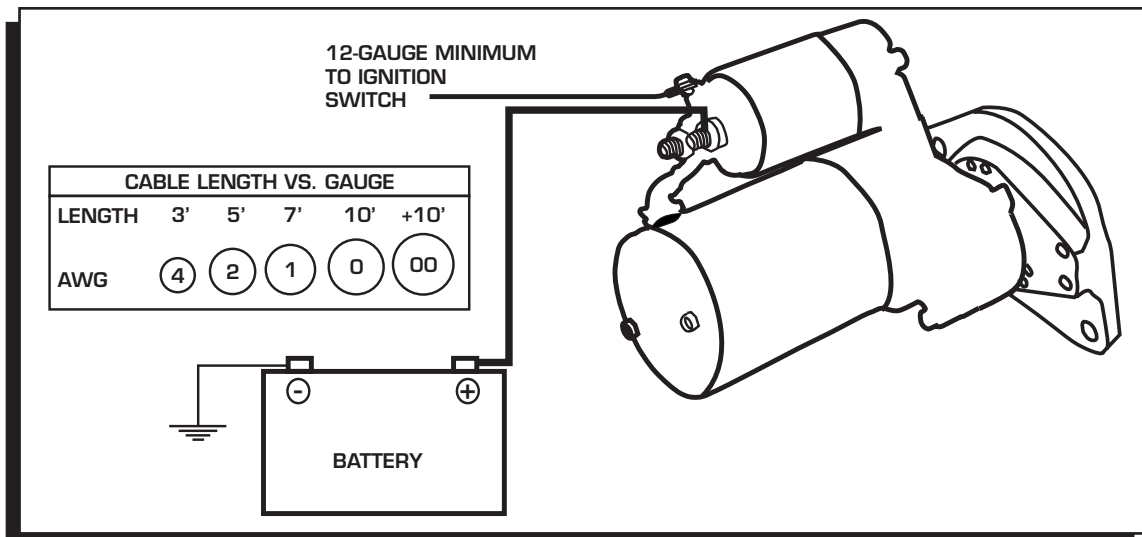
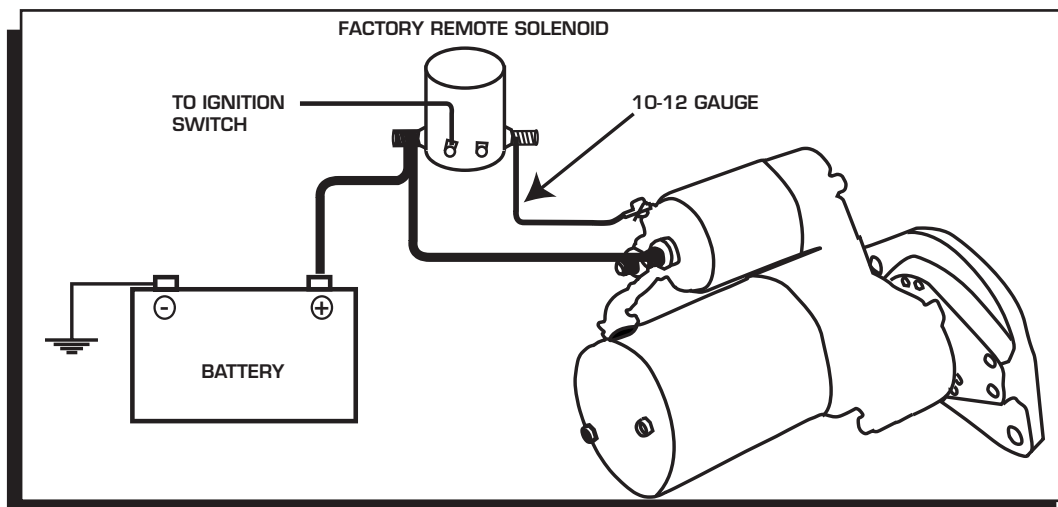

Figure 4 Wiring the DynaForce High Speed Starter.
Figure 5 Wiring to Incorporate an External Solenoid.
4. With the starter mounted and gear engagement confirmed, it is time to connect the wires. The switch wire that connects to the solenoid should be at least 12-gauge (Figure 4). For alternative wiring to incorporate the factory remote solenoid, See Figure 5.
5. Attach the battery cable. The gauge of the battery cable depends on its length. Using the proper gauge wire is important to the operation of the starter. Both the positive and ground wires must be able to meet the demands of the starter. The chart in Figure 5 shows the recommended sizes. Be sure to route the wire away from the exhaust and moving parts of the engine.